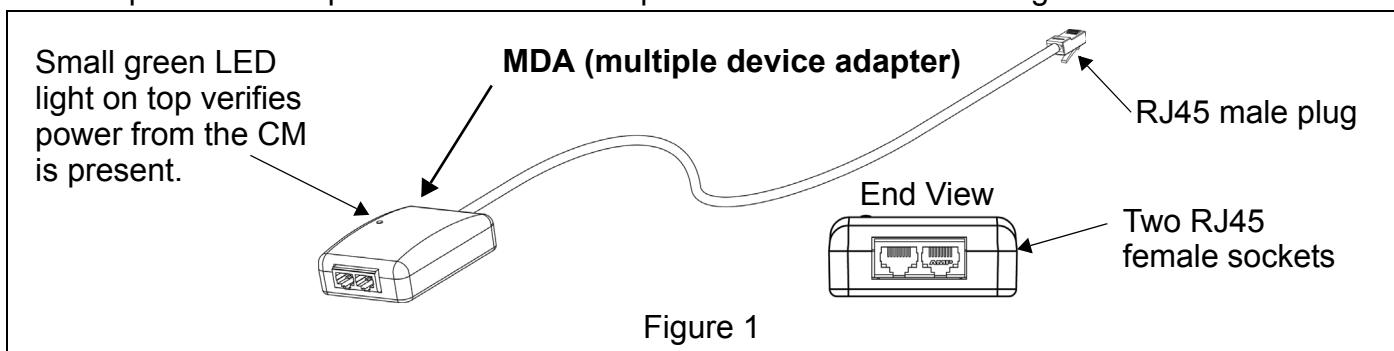

Figure 1
"Tank type" water heaters in a Multiple Appliance Network require that a MDA is installed between the water heater and the network - see pages 7 & 8. MDAs have two female RJ45 sockets and a network cable with a male RJ45 plug. There is a small green LED light on the top that verifies power from the CM is present at the MDA - see Figure 1.
- 2 Each tank type water heater on a Multiple Appliance Network must have a MDA (multiple device adapter) installed. See Figure 1 on page 1, Figure 7 on page 7 and Figure 8 on page 7. MDAs are ordered separately. One MDA kit should be ordered for every tank type water heater being connected to a Multiple Appliance Network.